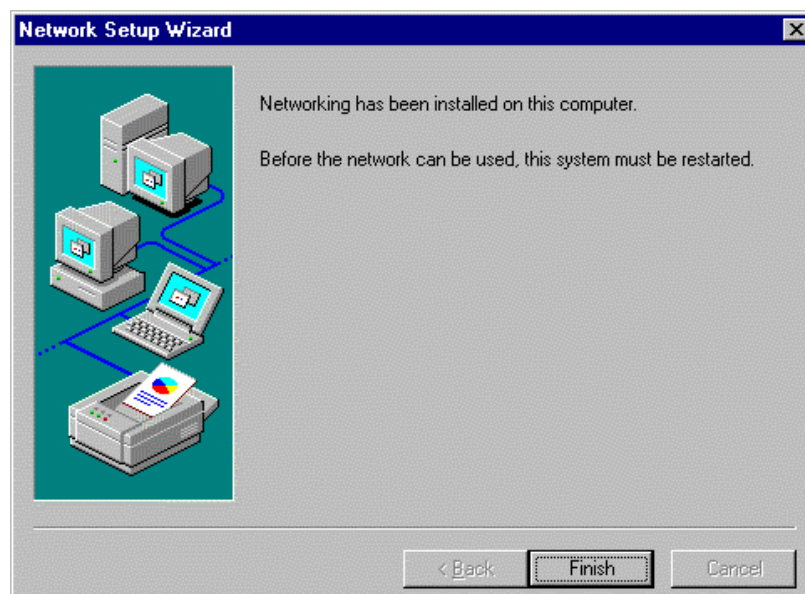

Fig. 8-28
- In the next dialog box (Fig. 8-28), select "Finish" to confirm.